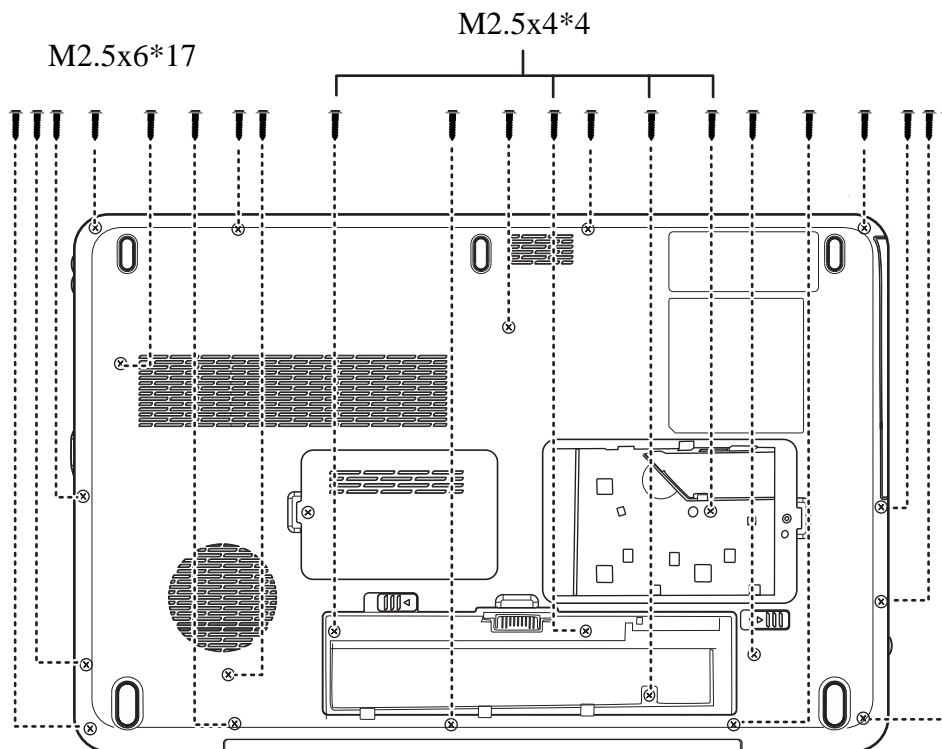

Figure 4.11 Removing the screws from the bottom of the laptop
Remove the logic upper assembly according to the following procedures and Figure 4.11, 4.12 and 4.13.
3. Turn the laptop upside down and secure it with 21 screws as indicated in Figure 4.11: